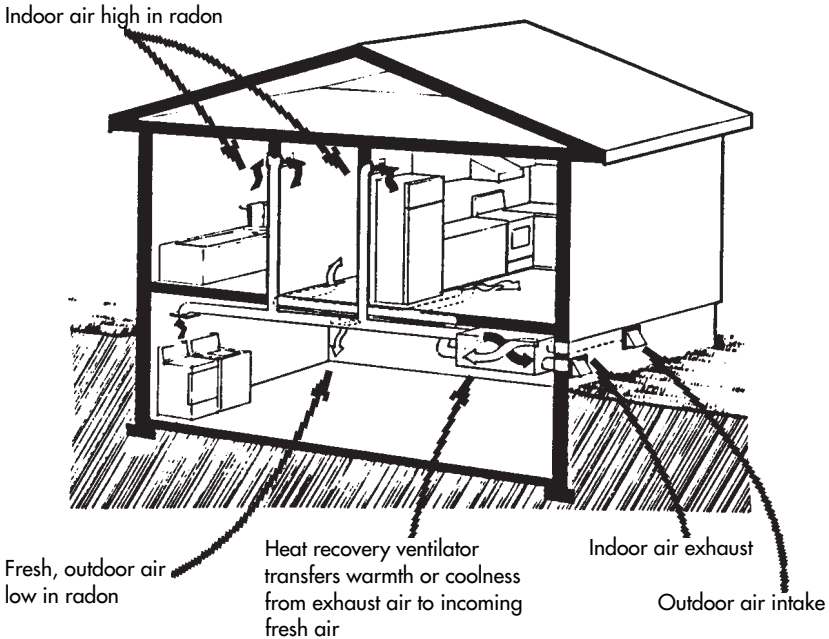

Figure 14: Increasing ventilation with a HRV
4 is not depressurized which may draw in more radon. This can be accomplished by installing a heat recovery ventilator (HRV)(see **figure 14**).
- Install a balanced ventilation system such as a heat recovery ventilator (HRV). A balanced system relies on both supply and exhaust fans to provide ventilation (see **figure 14, page 20**). An HRV will reduce the energy penalty associated with providing more ventilation to a home.